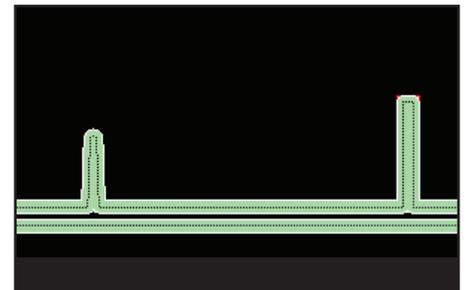

Figure 50: Defaults may produce voids in thin walls when rasters cannot fill between contours.
- Thin wall: A single contour pass may leave an air gap if the distance between the contour's sides is not large enough for a raster fill (Figure 50).